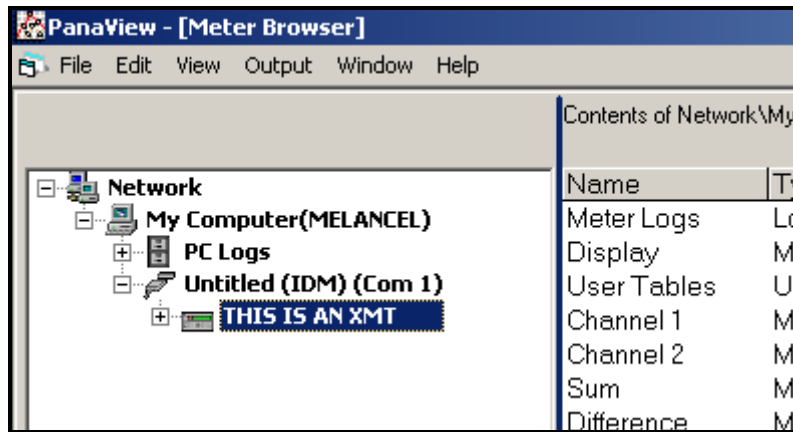
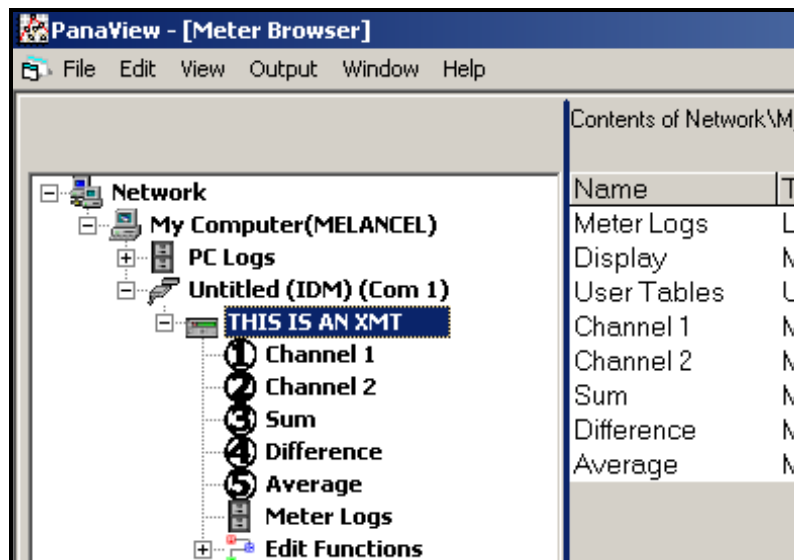

Figure 38: The Updated Network Tree
Figure 40: Meter Tree with *Edit Functions* Option
If the initialization is successful, the *Meter Browser* shows a listing similar to Figure 38.
1. From the meter tree in the *New Meter Browser* (see Figure 38 on page 95), click on the XMT entry. The screen now appears similar to Figure 40.